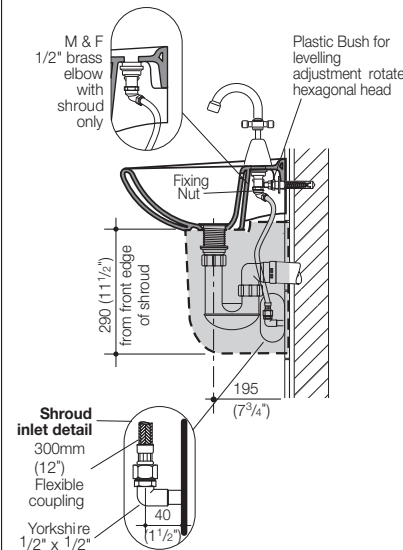

Fig. 3
- 5- Locate basin/lavatory onto the Fixing Screws on the wall. Insert plastic bushes, metal washers and fasten to wall with fixing nut. To complete assembly as detailed in Fig. 3.
- 6- The Plastic Bush allows for levelling adjustment if required by rotating the hexagonal head bush, the basin will be slightly raised or lowered as shown in Fig. 3.